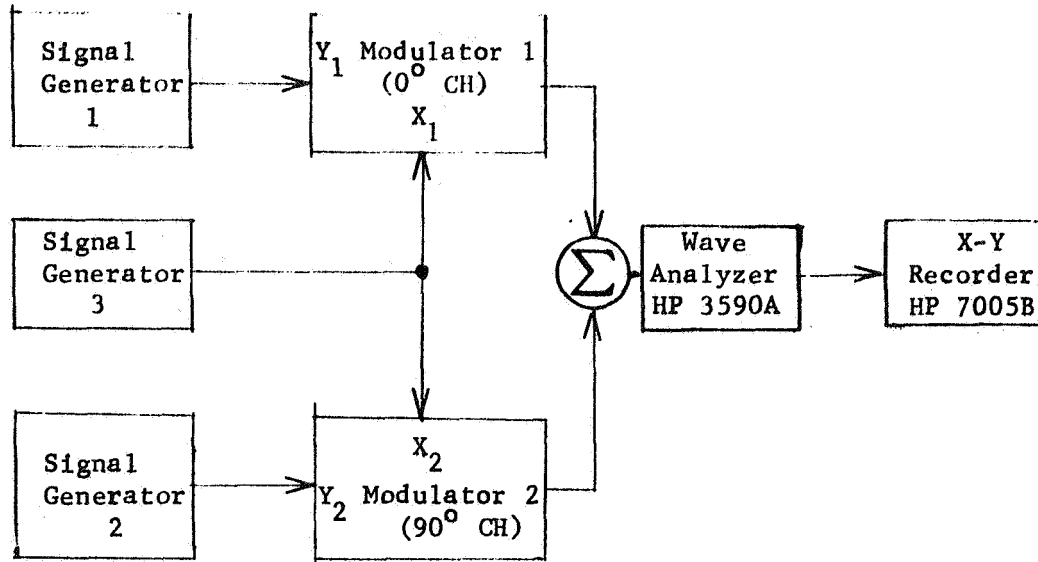

Figure 2.1
- A. Use the test circuit shown in Figure 2.1 connected to modulator 1.